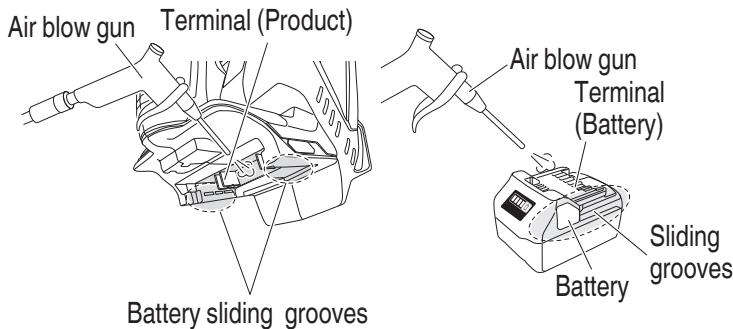

Fig. 48
9. Cleaning the battery installation compartment and the battery (Fig. 48)